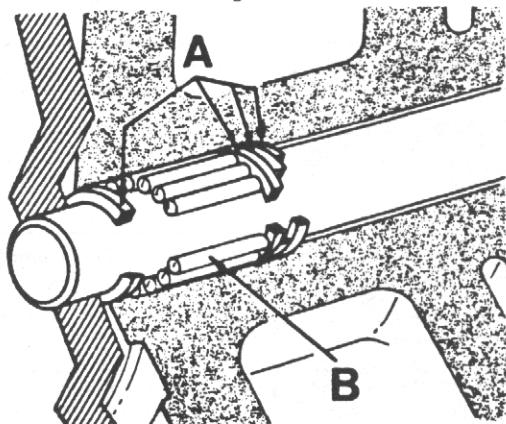

Fig 6.17 Needle roller (B) and spacer (A) arrangement when reassembling early N type gearbox (Sec 13)
- Smear grease inside the end of the countershaft gear cluster, then fit the spacers and needle roller bearings – there are 21 needle rollers. If the needle rollers are being renewed, make sure that all the rollers at any one end of the gear cluster come from the same pack. Do not mix old and new needle rollers, or rollers from different packs. On early models, the countershaft bearing bore was 33.0 mm long; on later models it is 27.75 mm long, and the needle rollers are correspondingly shorter. When rebuilding an early gearbox, use the newer shorter rollers, and insert two extra spacers behind them – see Fig. 6.17. Make sure that